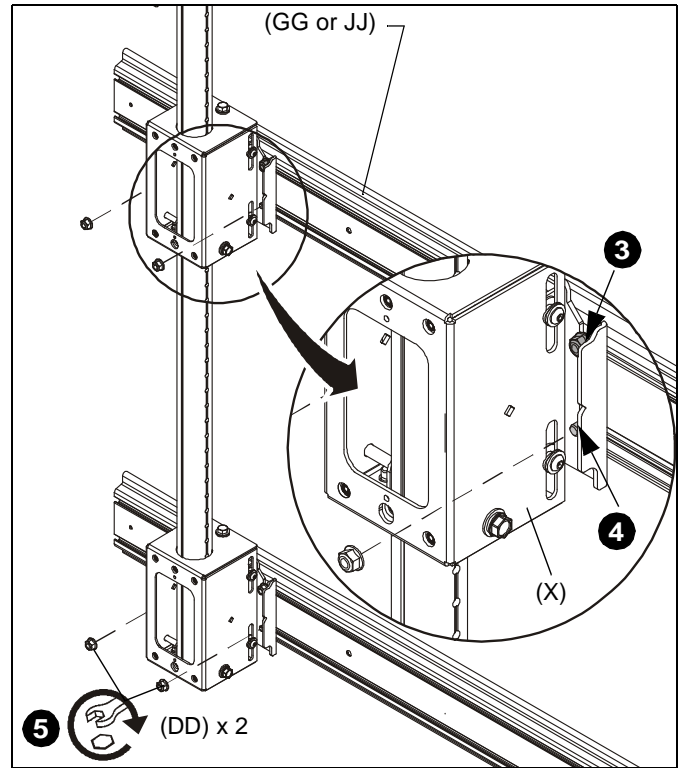

Figure 11
2. Partially fasten one 5/16" lock nut (DD) to each stud on upper T-slot nuts.
3. Slide top T-slot nuts (AA) with attached lock nuts (DD) down into top openings on array head (X). (See Figure 11)
4. Slide studs on lower T-slot nuts (AA) into lower slots on array head (X) while bringing mounting rail against array head (X).
5. Tighten array head to mounting rail by tightening lock nuts on upper T-slot nuts and adding two 5/16" lock nuts (DD) to lower T-slot nuts. (See Figure 11)